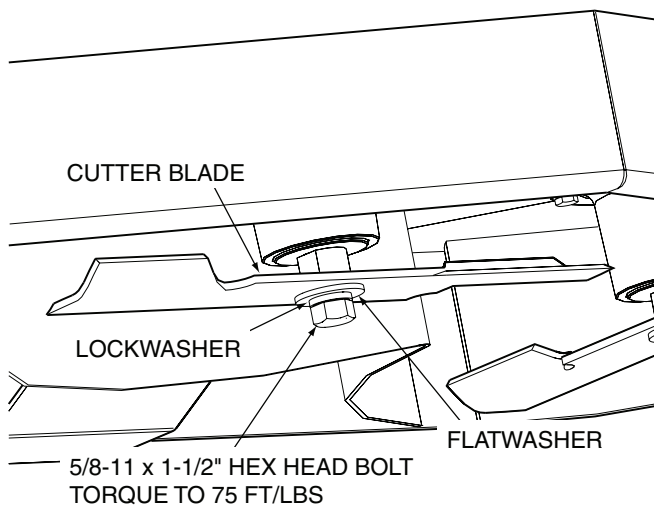

Figure 7-9. Blade Replacement
3. Secure the cutter blades to prevent them from rotating, (use the optional Blade Buddy tool P/N 9212, to assist in securing the cutter blades), remove the blade attaching bolt. Remove the cutter blade, bolt, lockwasher and flatwasher from the spindle shaft. See Figure 7-9.
5. Install the cutter blade onto the cutter spindle shaft. Secure the blades from rotating and torque to 75 ft/ lbs. See Figure 7-9.